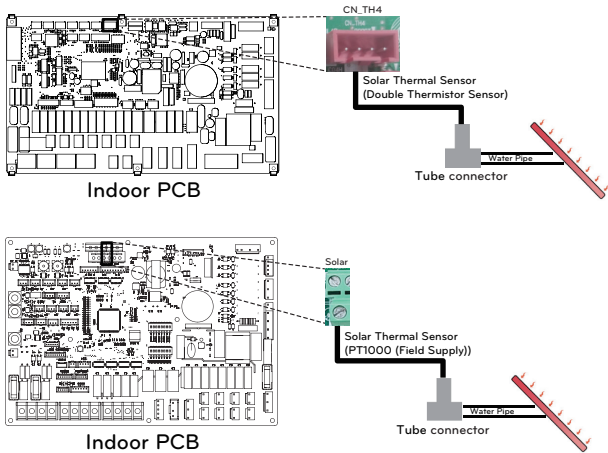

Figure 2
- Insert the harness into PCB(CN_TH4 / Solar) fully and fix the solar thermal sensor into the tube connector as in Figure 2.